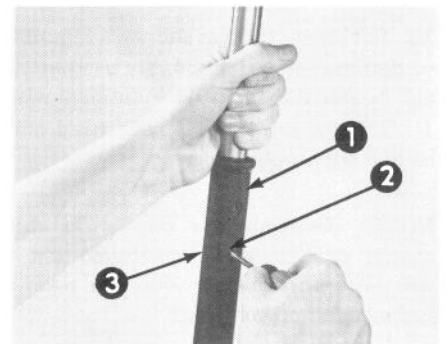

Figure 4
9. Using a Phillips screw driver, tighten the handle screw while holding plastic handle nut in place (Fig. 4).